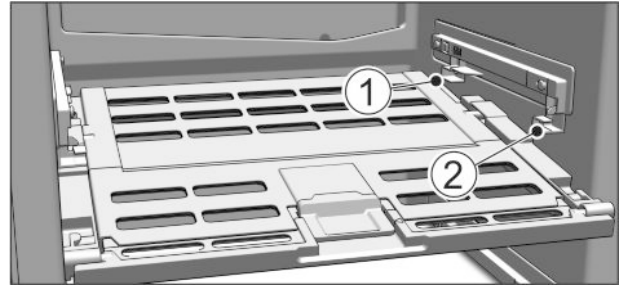

Fig. 51
- ▶ Replacing the Fruit & Vegetable safe cover: Guide the ridges on the cover into the rear brackets Fig. 51 (1) and click it into the front bracket Fig. 51 (2).